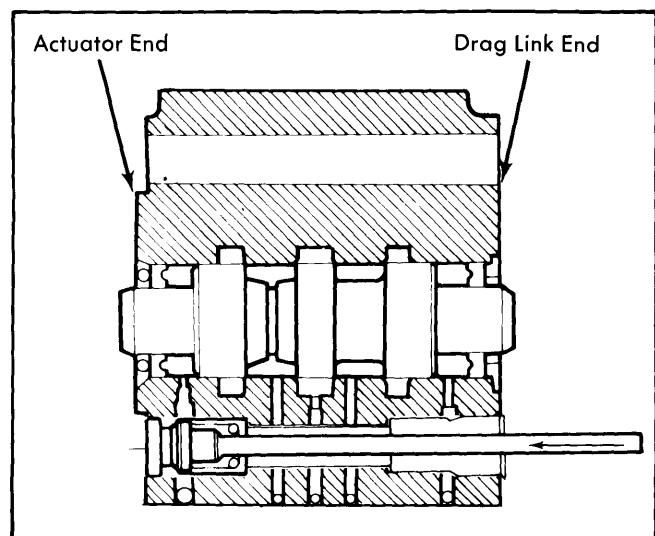

Fig. 2 Pressing Reaction Limit Plug from Control Valve Body
2) Carefully lift control valve body over the spool bolt. Remove reaction limit plug from control valve body (drag link end). Remove reaction limit spring, washer and plunger. Now remove reaction limit plug at actuator end of control valve body. **NOTE** — If plug has a press fit, use a  $\frac{1}{16}$ " diameter rod approximately four inches long to press plug out as shown in Fig. 2.